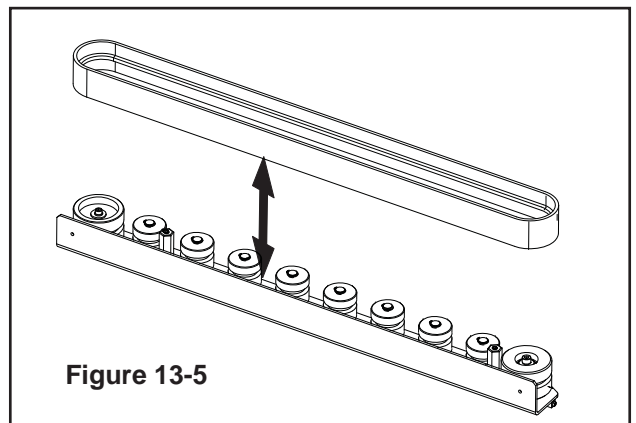

Figure 13-5
4. Remove existing belt (**Figure 13-5**).